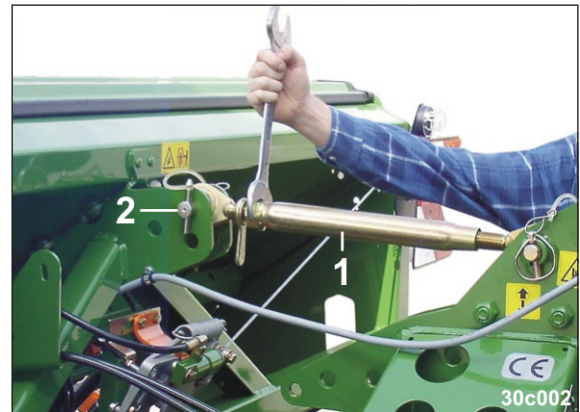

**Fig. 110**
4. Attach the bearing sleeves (Fig. 110/2) with the catching sockets (Fig. 110/1).
6. Fix the connection with pins (Fig. 110/3) and secure with a spring cotter pin.